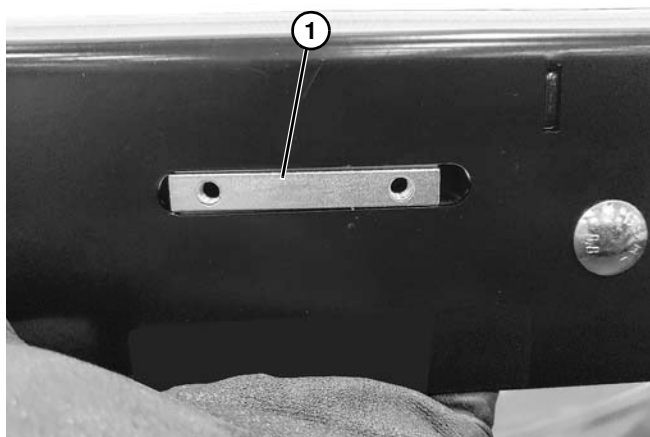
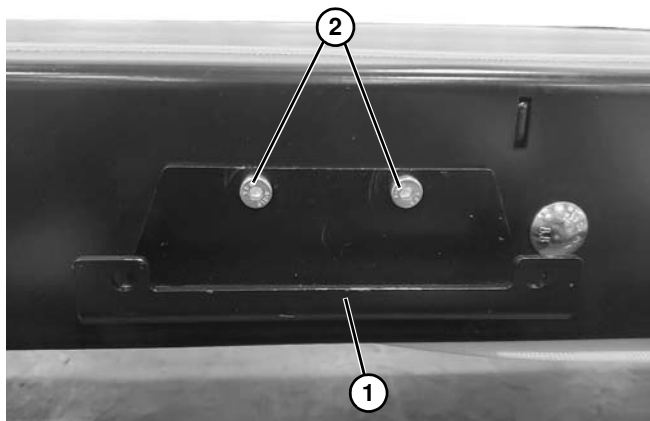
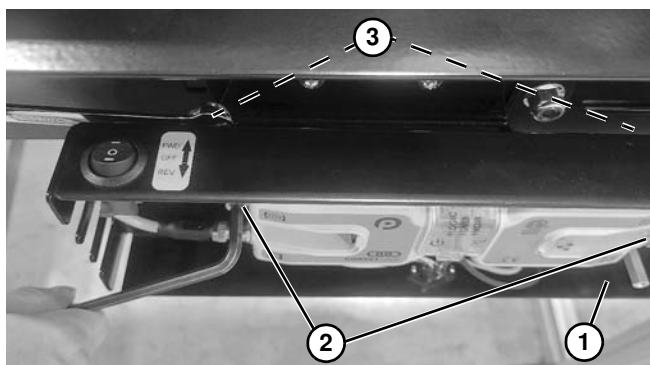

Figure 33
Figure 34
Figure 35
4. Install tee bar (**Figure 33, item 1**), and secure mounting bracket (**Figure 34, item 1**) with two screws (**Figure 34, item 2**).
5. Secure controller assembly (**Figure 35, item 1**) onto mounting bracket (**Figure 34, item 1**) with two screws (**Figure 35, item 2**) and nuts (**Figure 35, item 3**).